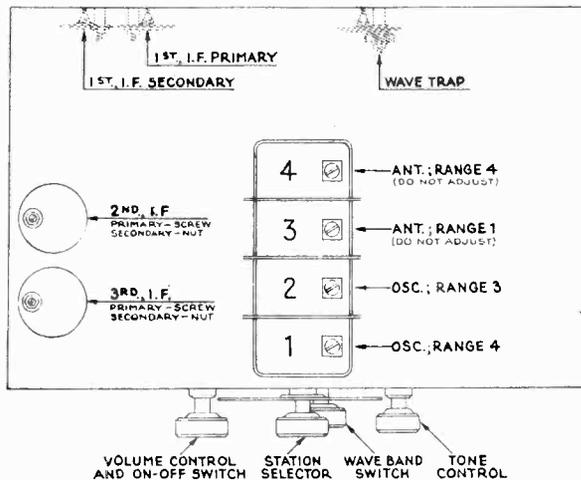
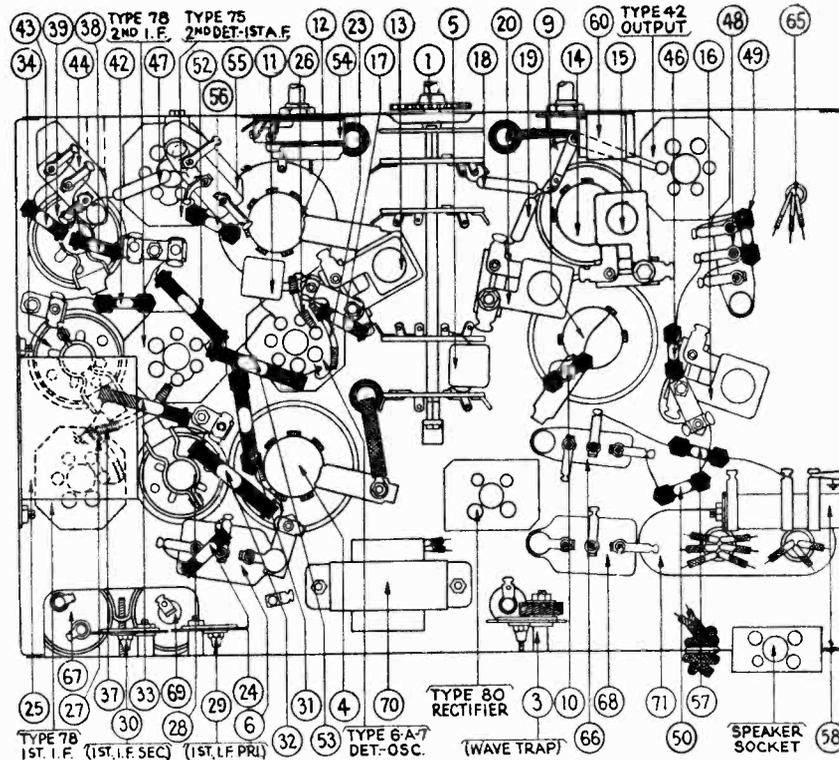

FIG. 2—Position of Compensating Condensers Reached from Above Chassis
FIG. 4.—Bottom View of Chassis, Showing Parts, and Position of Compensating Condensers Located,—and Reached,—from Below Chassis.
DO NOT ATTEMPT TO ADJUST COMPENSATING CONDENSERS MOUNTED ON SECTIONS 3 AND 4 OF TUNING CONDENSER. (FIG. 2).
The output meter is connected to the primary terminals of the Output Transformer. Set the signal generator of the Model 048 at 460 K.C.—the intermediate frequency of Model 44,—and adjust each of the I.F. compensating condensers in turn, to give maximum response in the output of the receiver. The location of the I.F. compensating condensers is shown in Figure 2 and Figure 4. Figure 2 shows the position of the compensating condensers of the 2nd, I.F. Transformer (34) and of the 3rd, I.F. Transformer (39). Each of these transformers has its dual compensating condenser mounted at its top, and accessible through a hole in the top of the coil shield. In the dual compensators, the Primary circuit is adjusted by the SCREW; the Secondary circuit is adjusted by the hex-head nut. The adjustment of the primary and secondary circuits of the 1st, I.F. Transformer (2) is made by means of two single compensating condensers (29 and 30) mounted underneath, and at the rear of the chassis and accessible from the rear. They are shown in Figures 2 and 4.
Trap (3) is located at rear and underneath the chassis, and is shown in Figures 2 and 4. It is reached from the rear of the chassis.
Turn the Wave-Band Switch to Range 2, and adjust the Station Selector to 3.6 M.C. The "Antenna" connection between the Signal Generator and the receiver chassis must be removed for this adjustment. The output of the Signal Generator will be too great, otherwise. Adjust the compensating condenser (13) to give maximum response in the output circuit. This compensating condenser is located underneath the chassis and is not accessible from above. See Figure 4.
The Model 048 Set Tester is used again. Turn the Wave-Band Switch to Range 2, Station Selector to 1.5 M.C. Set the Signal Generator (Model 048) at 1500 K.C. (1.5 M.C.). The "Antenna" connection between the Signal Generator and the chassis should be restored. Adjust compensating condenser (20) located underneath the chassis, (Figure 4). Adjustment is possible from the underside of the chassis.
Place the Wave-Band Switch at Range 1, and the Station Selector to 1400 K.C. Set the Signal Generator (Model 048) at 1400 K.C. Adjust the compensating condenser (15), which is located underneath the chassis. See Figure 4. This adjustment is possible from the underside of chassis.
With Wave-Band Switch at Range 1, and Station Selector at 520 K.C., set the Signal Generator of the Model 048 at 520 K.C., and adjust the compensating condenser (16) (Figure 4). This compensating condenser is mounted underneath the chassis, and is reached from below.